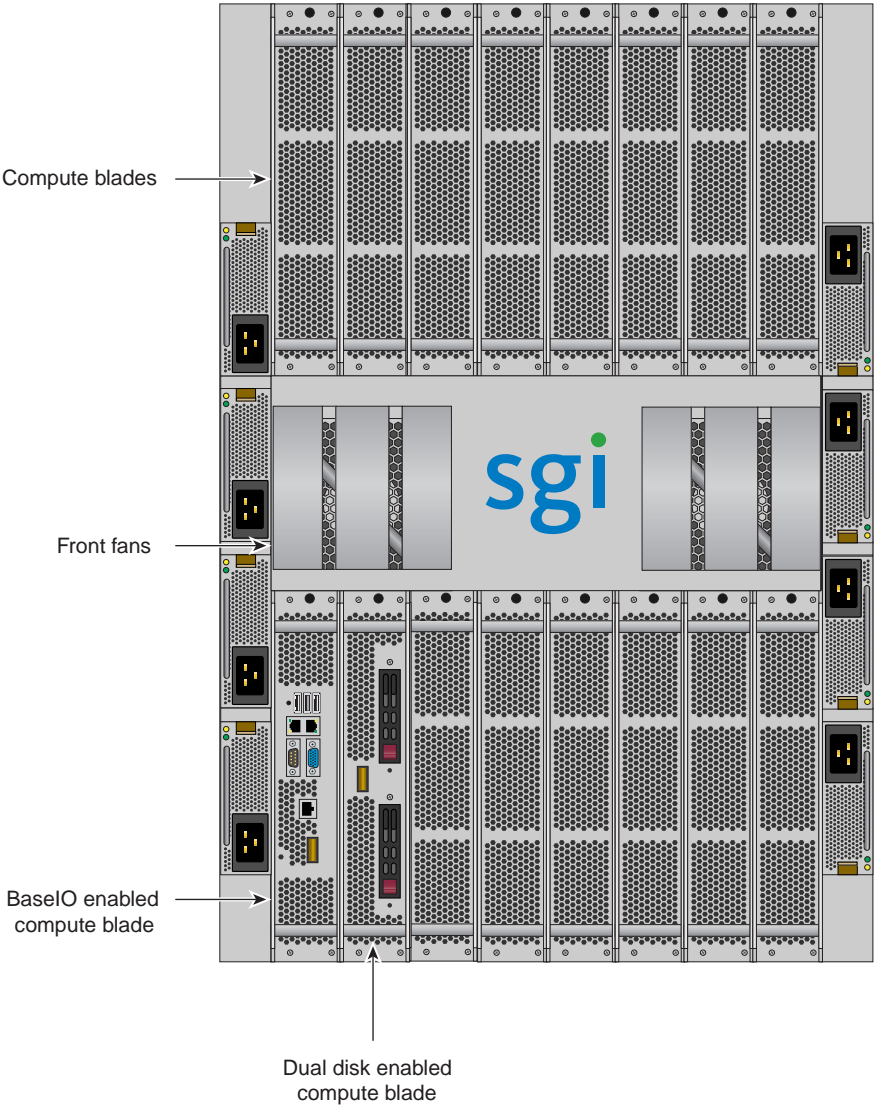

Figure 3-5 Altix UV 1000 IRU System Components Example
- **Individual Rack Unit (IRU).** This enclosure contains eight power supplies, 2-16 compute/memory blades, BaseIO and other optional riser enabled blades for the Altix UV 1000. The enclosure is 18U high. Figure 3-5 on page 47 shows the Altix UV 1000 IRU system components.